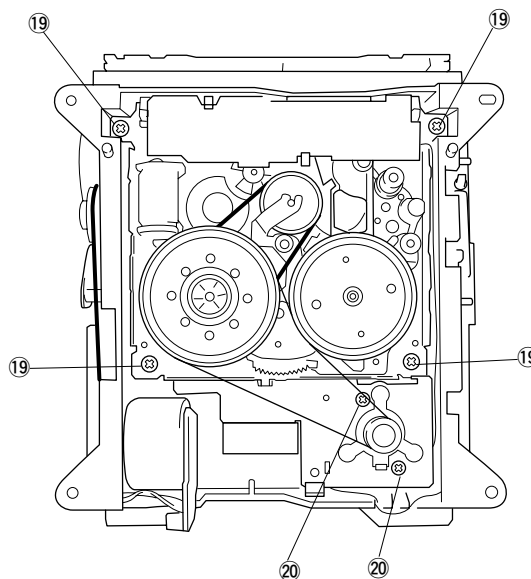

Fig. 14
Remove 4 screws ( ①9 ) and then pull out the Cassette Mechanism in Fig. 14.
Remove 2 screws ( ②0 ) in Fig. 14.